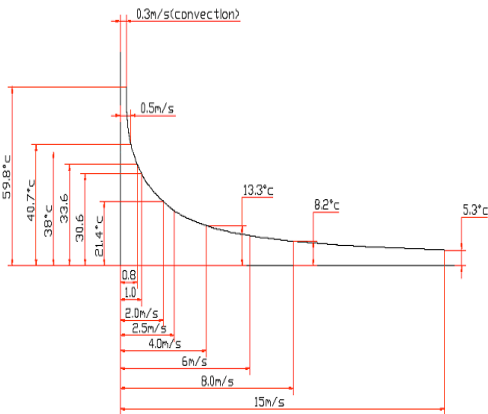

Fig.4 Air velocity Vs heat sink thermal resistance
- The thermal resistance can be reduced by increasing forced air flow (See. Fig. 4), although the air flow can be increased and thermal resistance can be improved by fans, it also can bring the noise in same time.